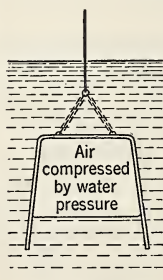
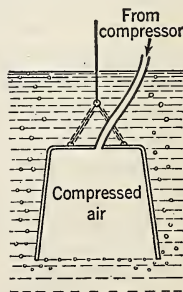

FIG. 93. Diving bell being lowered into the water.
FIG. 94. Diving bell being supplied with compressed air.
3. *Diving bells and diving suits.* If we force a tumbler under water, mouth downward, the pressure of the water compresses the air in the tumbler to some extent, the amount of compression depending upon the depth. The air in a *diving bell* is compressed in a similar manner as it is lowered in the water. (See Fig. 93.) In the modern diving bell the workmen are supplied with air forced down through a tube connected with a compressor at the surface. The air is supplied fast enough to force all the water out of the bell and keep a stream of bubbles flowing out from its lower edges. (See Fig. 94.)